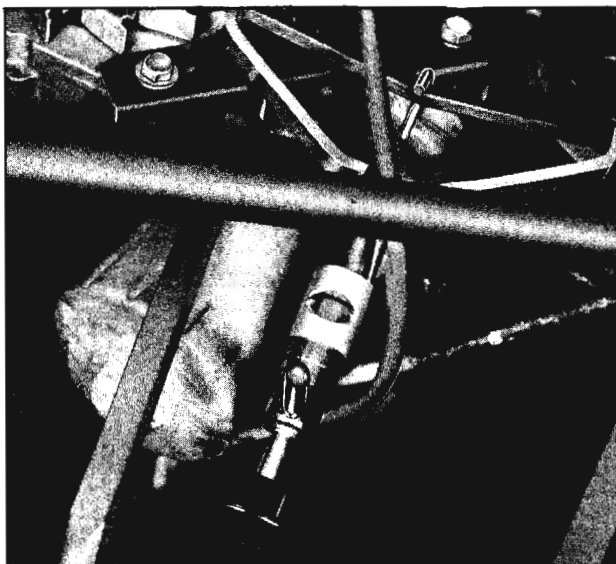

Fig. 14-106 Belt Tension Adjustment
4. Adjust belt using Tool BT-33-70 and tighten belt adjustment link bolt. (Fig. 14-106)